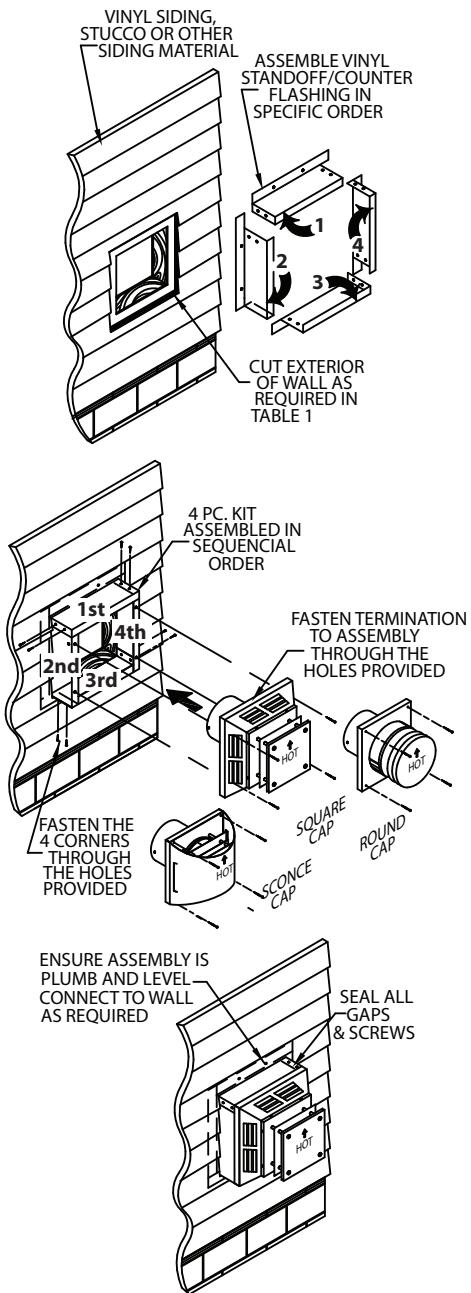

Figure 12
- Loosely assemble the four parts, in order, around the opening in the vinyl siding. Place the first of 4 pieces along the upper edge of the opening in the vinyl siding. Progressing counter-clockwise, place the left side, the bottom side, and then the right side around the opening in the siding. Refer to **Figure 12**.
- Attach the Horizontal Cap to the Vinyl Siding Standoff. Line up the holes in the cap with the holes in the Vinyl Siding Standoff and secure with the (4) long screws provided with the cap.
Center the counter flashing on the wall around the framed penetration. Secure to the wall using the screws provided or other necessary connector depending on the wall material. Attach the Horizontal Cap to the Counter Flashing by lining up the holes in the cap with the holes in the Counter Flashing. Secure using the 4 long screws provided with the cap (**Fig. 12**).